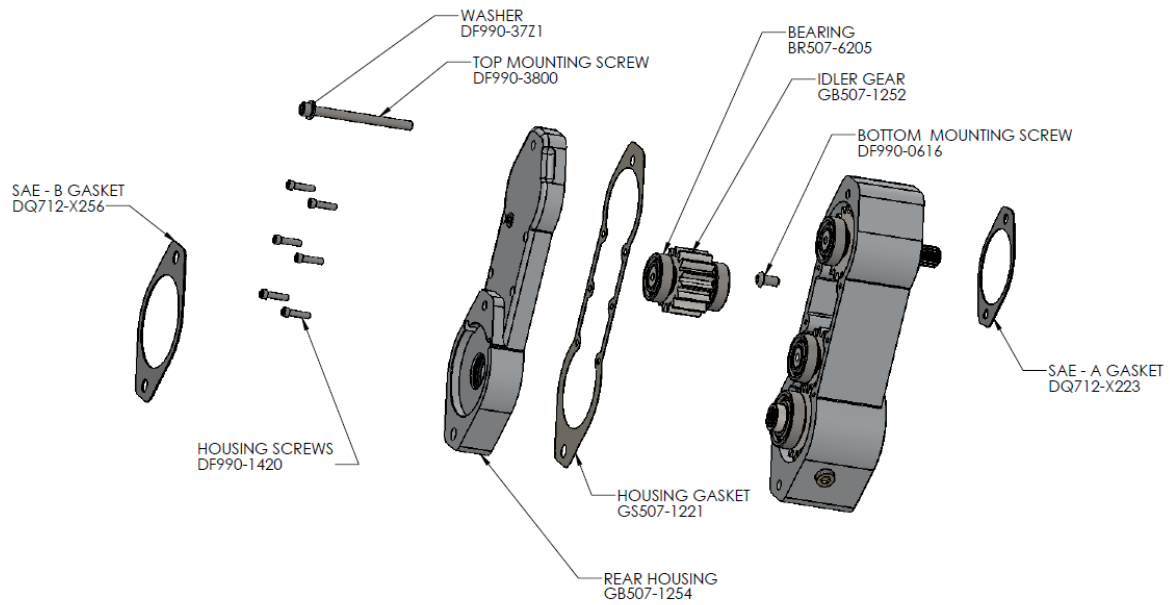

Figure 2
The Hydra-Drive is shipped pre-assembled from the factory. Start by separating the housings and remove the top idler gear to get to the bottom SAE-A mounting hole. See figure 2 below.
- 1.** Refer to figure 2 above for step 2 instructions.